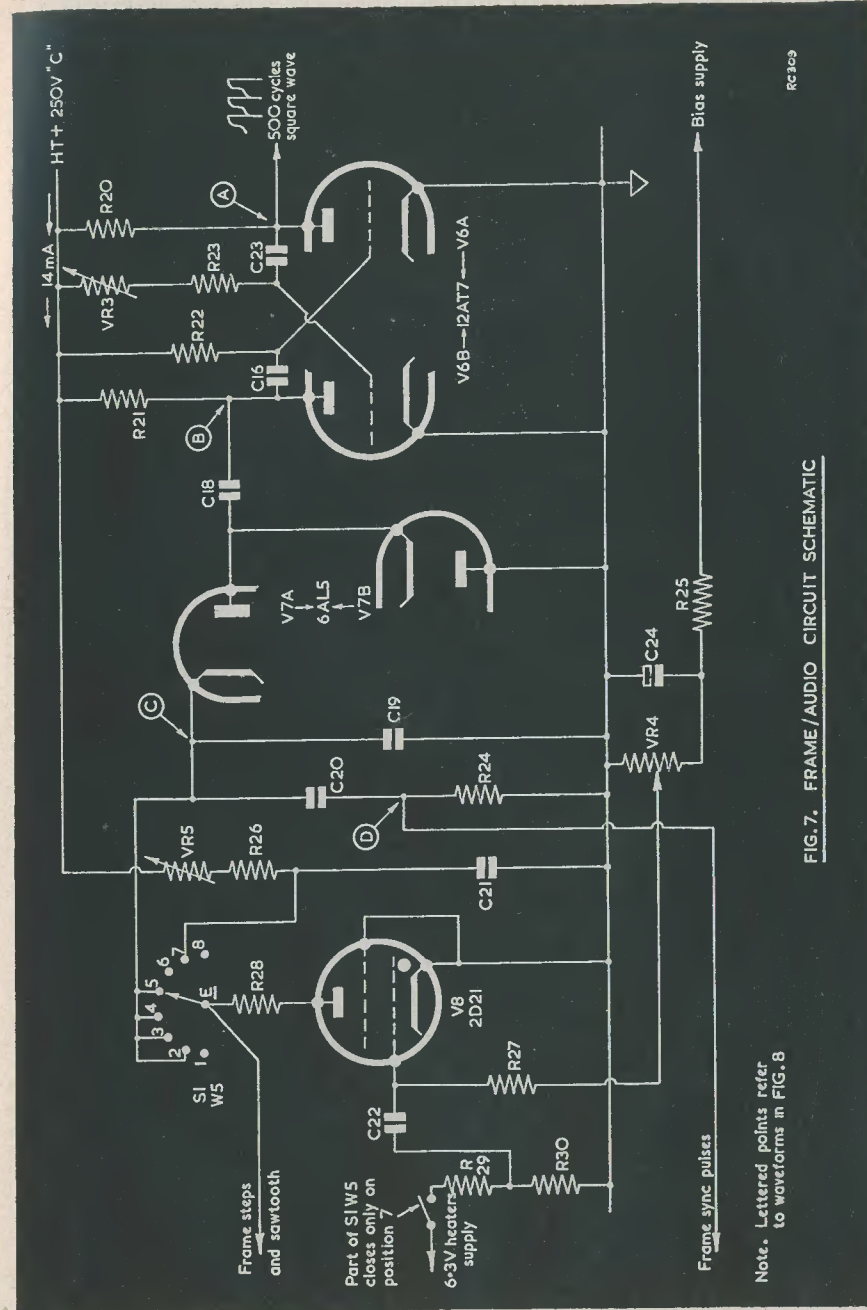
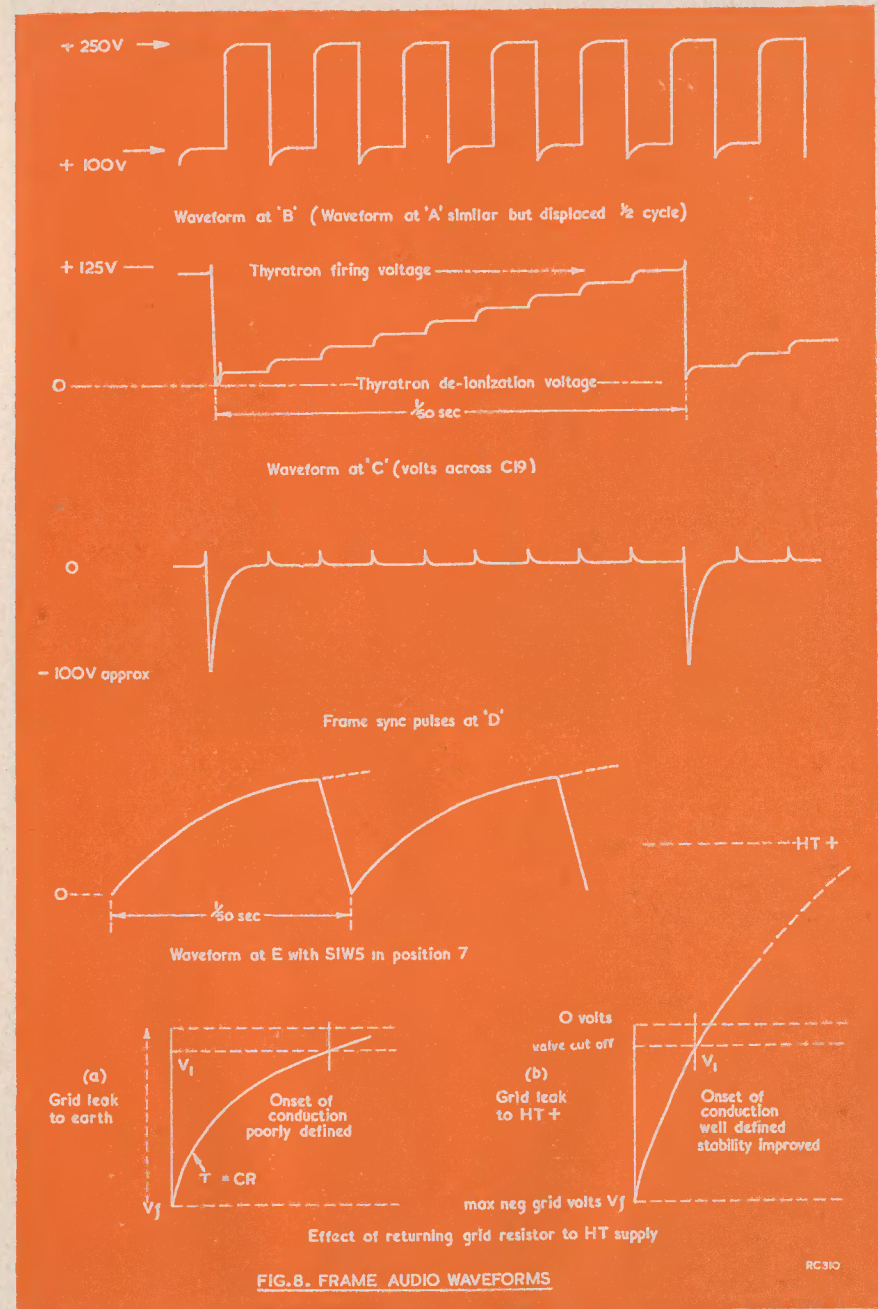

FIG. 7. FRAME/AUDIO CIRCUIT SCHEMATIC
FIG. 8. FRAME AUDIO WAVEFORMS
The circuit of this unit is given in Fig. 7. The main multivibrator is in this case symmetrical, and produces a square wave at 500 c/s. To improve the frequency stability, the grid timing resistors are returned, not to earth, but to HT+. One of them is made variable to permit the operating frequency to be precisely adjusted, to some multiple of the frame frequency; not necessarily 10 times: if, by virtue of normal component tolerances, 500 c/s cannot be achieved, one or two multiples above or below 50 c/s can be tolerated, provided that the succeeding stage is set to divide down in the appropriate ratio. The frequency is stable because the frequency of a multivibrator depends primarily on (1) the time constants of the grid circuits. These are passive elements. (2) Ratio of V_f to V_i (See Fig. 8 Waveforms). Since these voltages are all derived from the single HT source, variations affect them equally, so resulting in some error cancellation. (3) Precision with which the onset of conduction in the valve can be determined. This is again shown in Fig. 8, and is the reason for returning the timing resistors to the HT supply.
The square wave is also fed to the 'staircase' waveform generator consisting of V7 and V8 and their associated components. The action of this circuit is best understood by reference to Fig. 8. Consider V6B to be conducting, with its anode at about 100 volts positive, and assume C19 to be initially uncharged, so that its upper end is at earth potential. The lower end of C18 is also at earth potential, so C18 is charged to 100 volts. Now let V6B be cut off by the normal multivibrator action. The upper end of C18 rises to +250V, and the anode of V7A is carried positive so that V7A becomes conducting, and C18 and C19 are effectively in series. Thus C18 and C19 together become charged to 250 volts. Since C19 is much larger (about 20 times) than C18, the final distribution of voltage is such that
Note. Lettered points refer to waveforms in FIG. 8
In order to preserve the modulating waveforms, and also to allow them to be fed into relatively low impedance external circuits, a Brimar 12AU7 is used as a pair of cathode followers of conventional design. V9A handles the sync waveforms and feeds them to the suppressor of V2, and V9B handles video and audio waveforms via a gain control VR6 and feeds them to the control grid of V2. Thus VR6 is used as a modulation depth control for RF, and as a straight gain control for video output. No similar provision is made for the sync cathode follower, since, provided the sync amplitude is sufficient to cut off V2, this is all that is required. Note how in position 5 of the selector switch provision for mixing the line and frame voltages is provided by the additional wafer W3. This was not part of the original switch, but was salvaged from a scrap unit. Note also that the fourth wafer of this switch is that shown in Fig. 7 of the frame/audio unit.